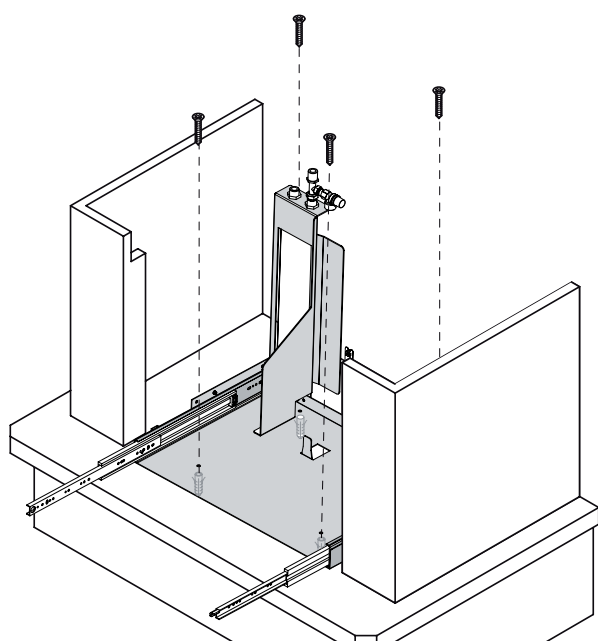

Fig. 6.5
- position the basement and anchor it to the fireplace floor with anchor bolts (fig.6.5)